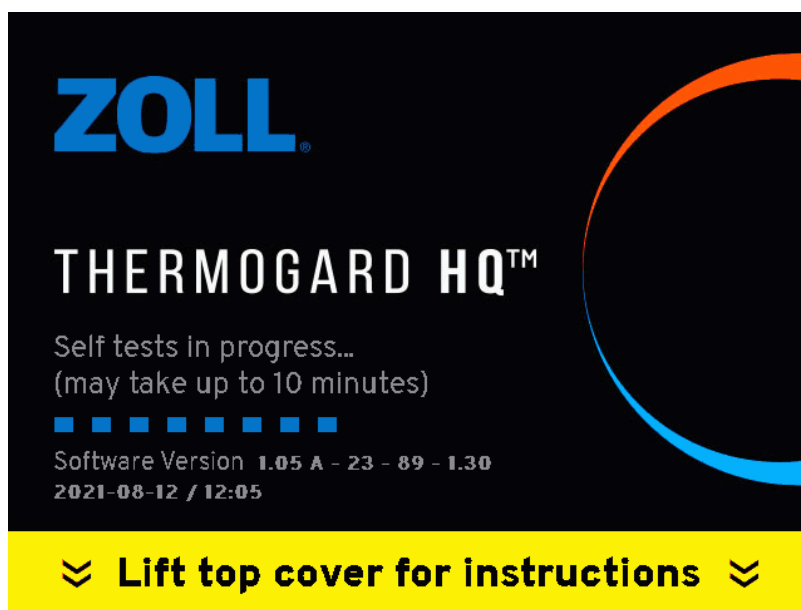

Figure 4.25. Self-Test screen
**Note.** The software version shown in Figure 4.25 is shown for reference only; the current product may use a different software version.
14. If the console has not yet finished its self tests, the Self-Test screen is displayed (Figure 4.25).